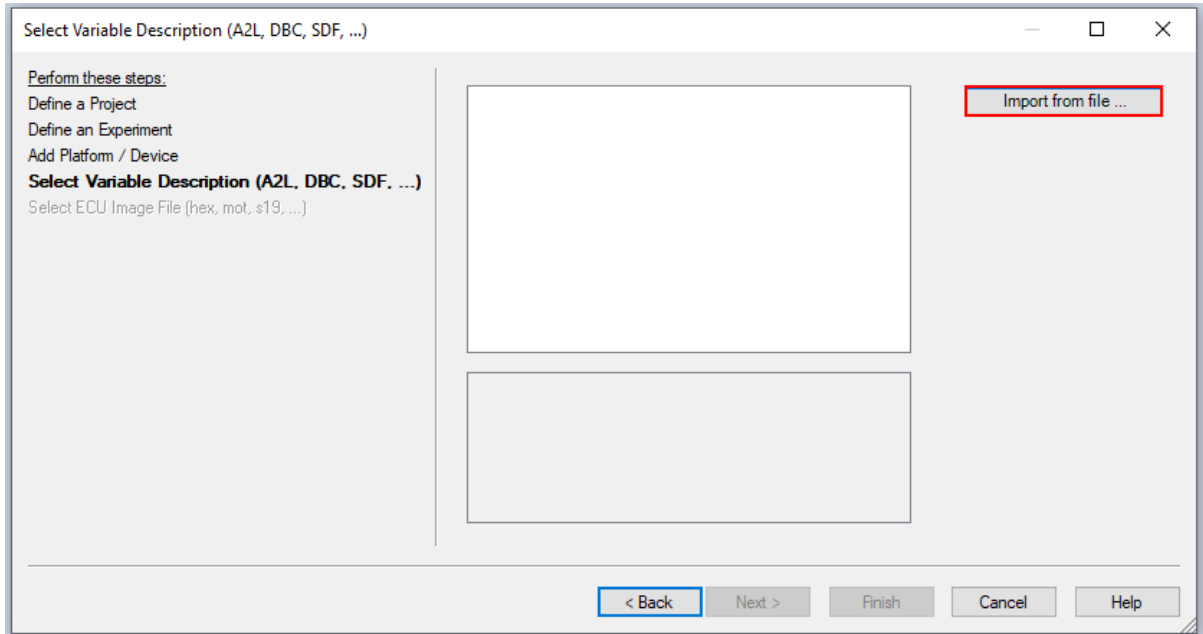
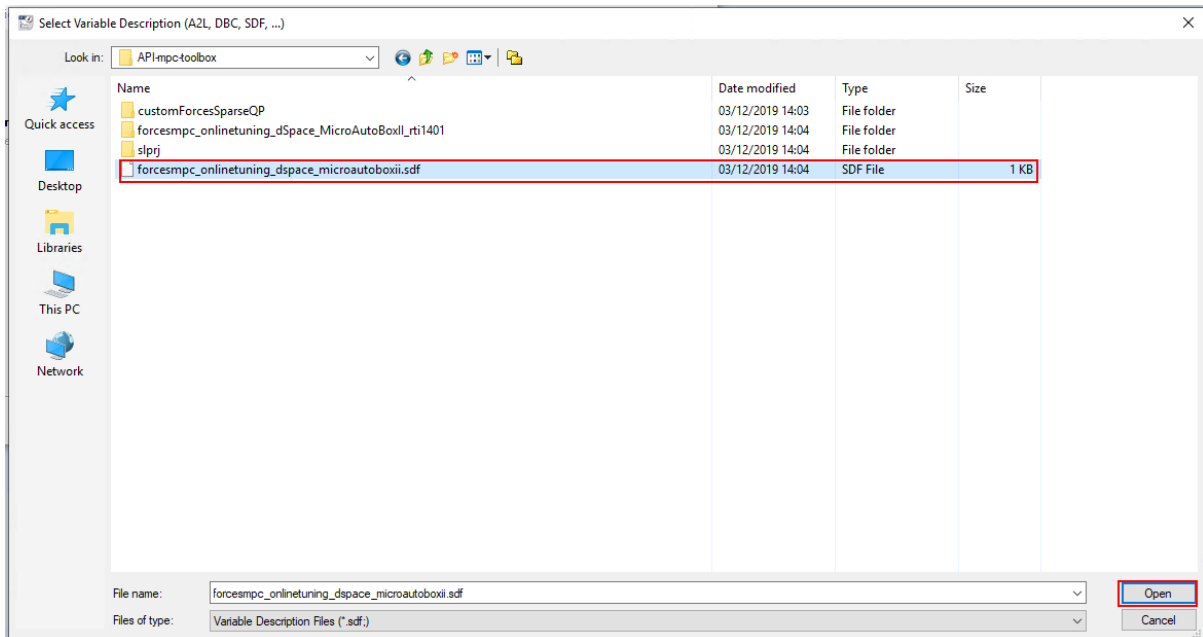

Figure 5.12: Import the variable description file
Figure 5.13: Select the sdf file with the variables description
- 9) Import the variable description file *forcesmpc_onlinetuning_dSpace_MicroAutoBoxII.sdf* in order to have access to the model variables and see the results of the execution (see Figure 5.12 and Figure 5.13).